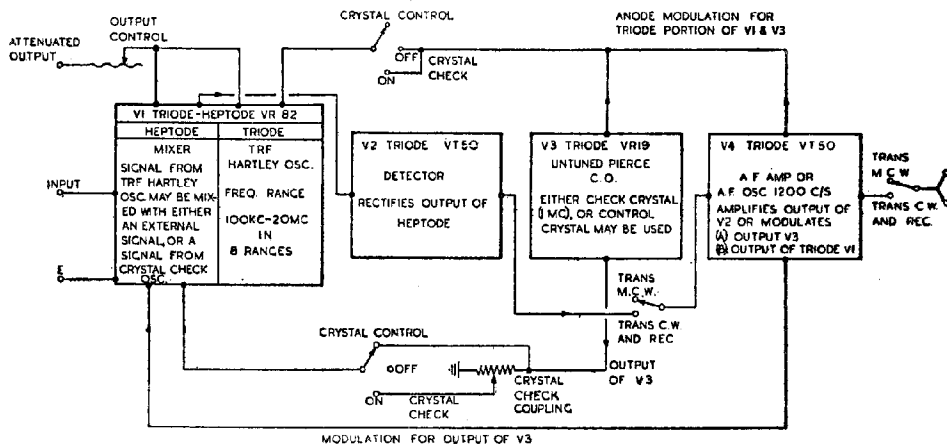

FIG. 109.—BLOCK SCHEMATIC WAVEMETER W1191
8. **Circuit Details.**—Block schematic (fig. 109) shows functioning of the stages for each method of operation.